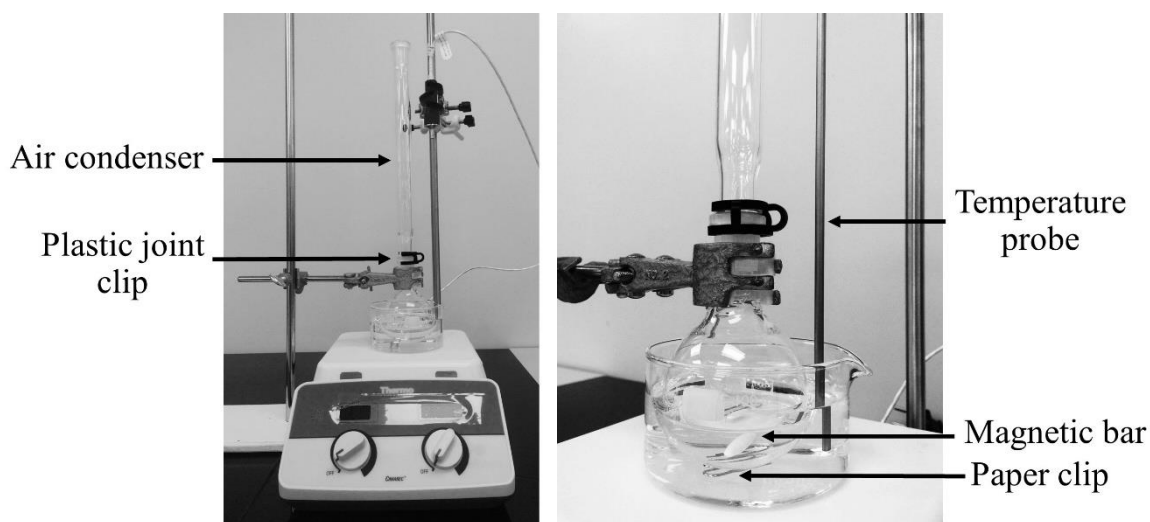

Figure 1: Set up needed for heating the reaction with water bath.
5. Setup the reaction as shown in **Figure 1**. The reaction flask is placed in the 55±2°C water bath. Attach the air condenser to the reaction flask with plastic joint clip. Heat the reaction mixture while stirring for 30 minutes using the water bath.